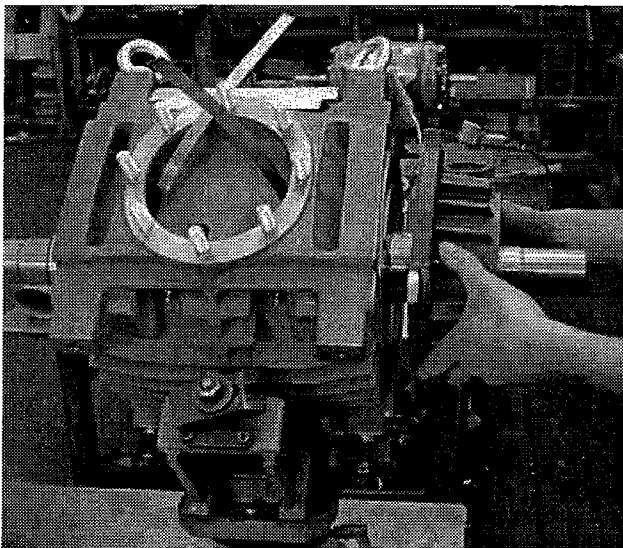

Fig. 7 Assembling of the casing cover (see chap. 3.1)
- Insert the rotor (3) into the machine.
- Make sure that you insert the rotor vane (5) as described in section 1.1.2.
- Beat in the cheesehead screw (63) and the conical pin (64) into the bearing cover. The pin must stick out for 2 - 3 mm over the surface.
- Guide the casing cover (9) over the rotor shaft against the casing (1). Consider the perfect sit of the o-rings (29).
- Attach the casing cover (9) with four washer (56) and screws (38) on the casing. Tighten the screws first by hand (see fig. 7).